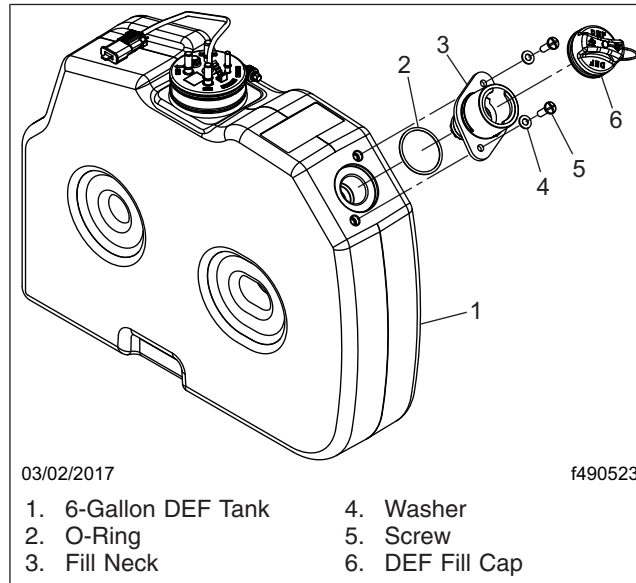

Fig. 2, Fill Neck Installation
2. Remove the screws and washers. See Fig. 2.